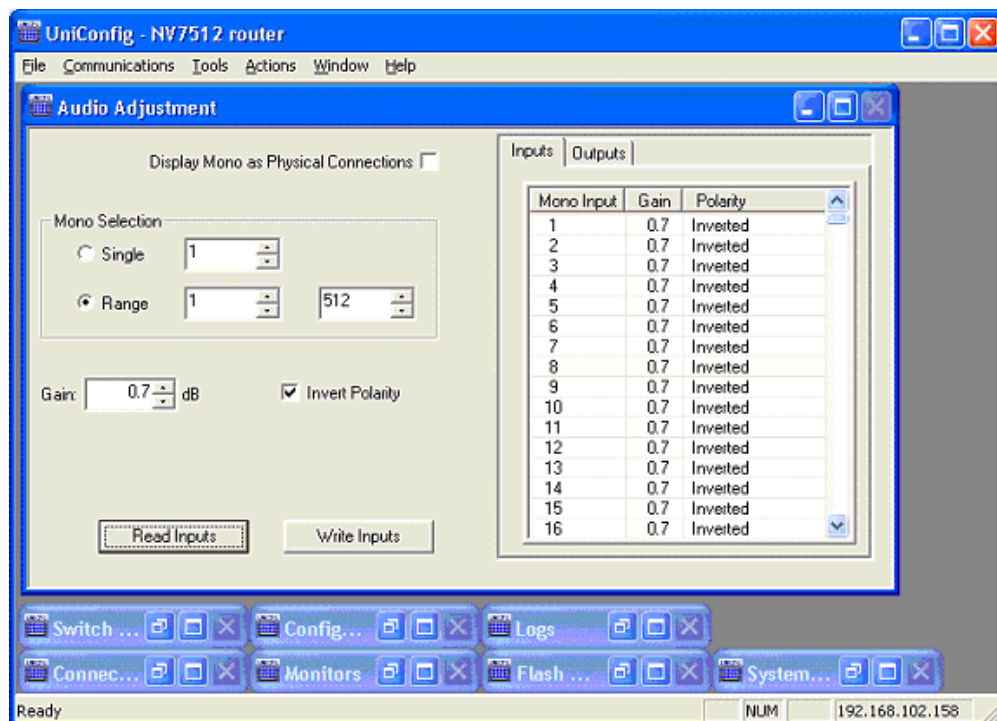

Figure 3-4. Input Gain Values in UniConfig Audio Adjustment Window
- 2 From the menu bar, select 'Window > Audio Adjustment'. The 'Audio Adjustment' window appears, as shown in Figure 3-4.